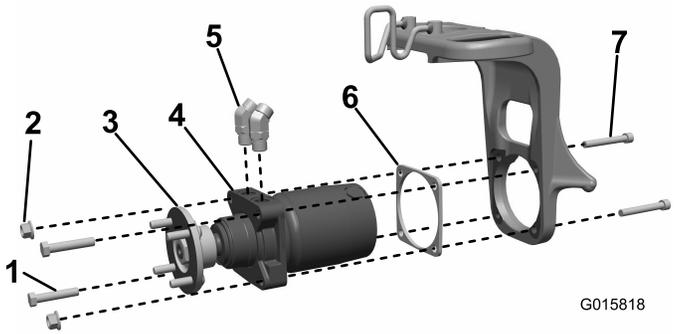

Figure 3
1. Install the 45° hydraulic fittings into the wheel motor and orient them approximately as shown in Figure 3. Leave the fittings loose.